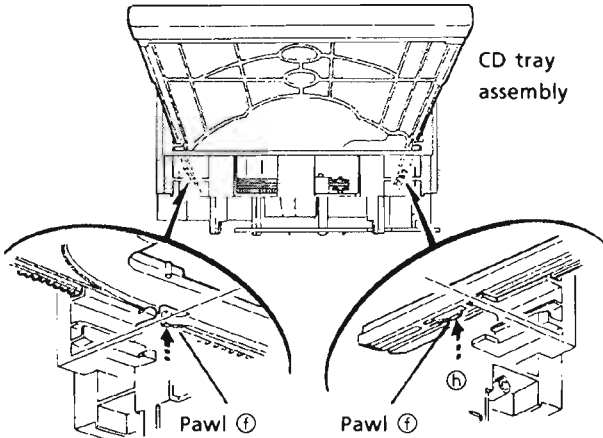

Fig. 35
14. Press 2 pawls (f, f') located rear side of the CD tray ass'y according to an arrow ① to remove the CD tray ass'y. (See Fig. 35.)